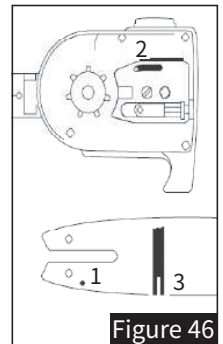

Figure 46
- Oil inlet opening (Figure 46, Item 1)
- Oil channel (Figure 46, Item 2)
- Guide bar raceway (Figure 46, Item 3)